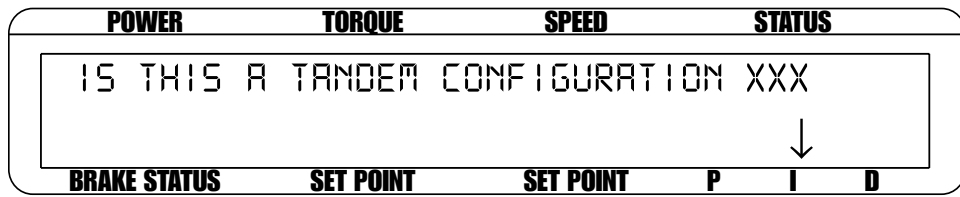

Figure 3–25 Tandem Configuration Menu
- 6.a. If using an Eddy Current Dynamometer, press SHIFT 2 times. The display should appear as shown in *Figure 3 –19 Nominal Speed Setup Menu*. Press the AUX SETUP button and use UP ◀ and DOWN ▶ buttons and Decrease/Increase dial to set desired nominal speed. Press SHIFT 2 times to get to the TSC2 Eddy-Current/Powder Brake Setup Menu as shown in *Figure 3–18*.
- 6.b. If using a Powder Brake Dynamometer, press SHIFT 2 times to get to the TSC2 Eddy-Current/Powder Brake Setup Menu as shown in *Figure 3–18*.
- 8.a. If using an Eddy Current Dynamometer, press SHIFT 2 times. The display should appear as shown in *Figure 3–19 Nominal Speed Setup Menu*. Press the AUX SETUP button and use UP ◀ and DOWN ▶ buttons and Decrease/Increase dial to set desired nominal speed. Press SHIFT 2 times.